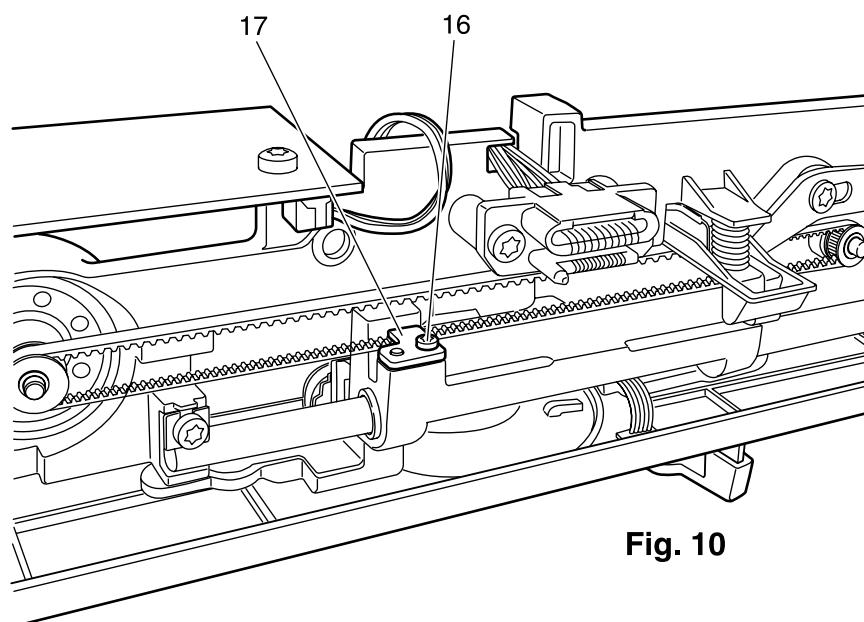

**Fig. 10**
5. Insert the clamp plate 17 into the toothed belt and tighten the Torx screw 16 (Fig. 10).